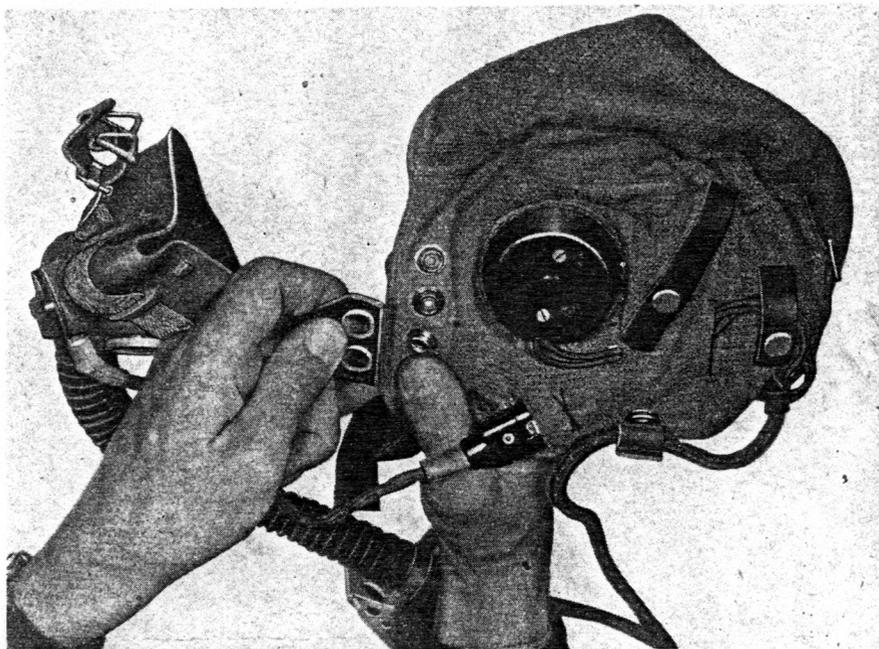

Fig. 3.—Attaching the mask to the helmet
6. Having chosen the best size, attach the mask to the left side of the helmet, using the press-studs provided, as shown in fig. 3, and put on the helmet.